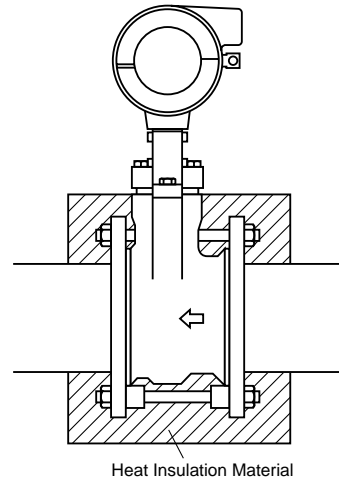

Figure 9.5 Heat Insulation Method.
- When the pipe carrying high-temperature fluids is heat-insulated, do not wrap heat-insulation materials around the installation bracket of the converter. (Refer to Figure 9.5)